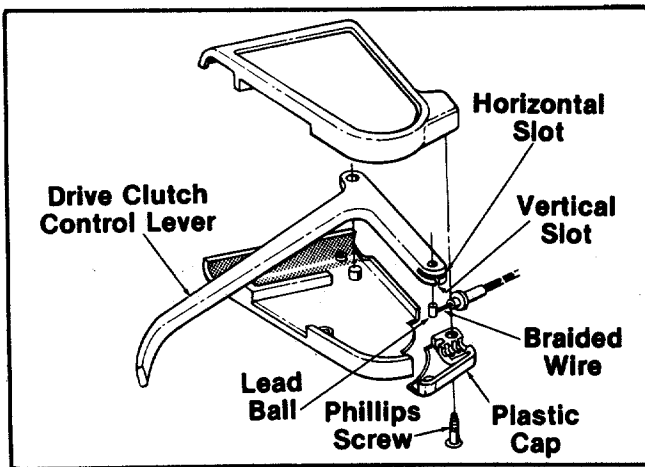

FIGURE 10.
16. Slide the braided wire around in the horizontal slot. See figure 10.